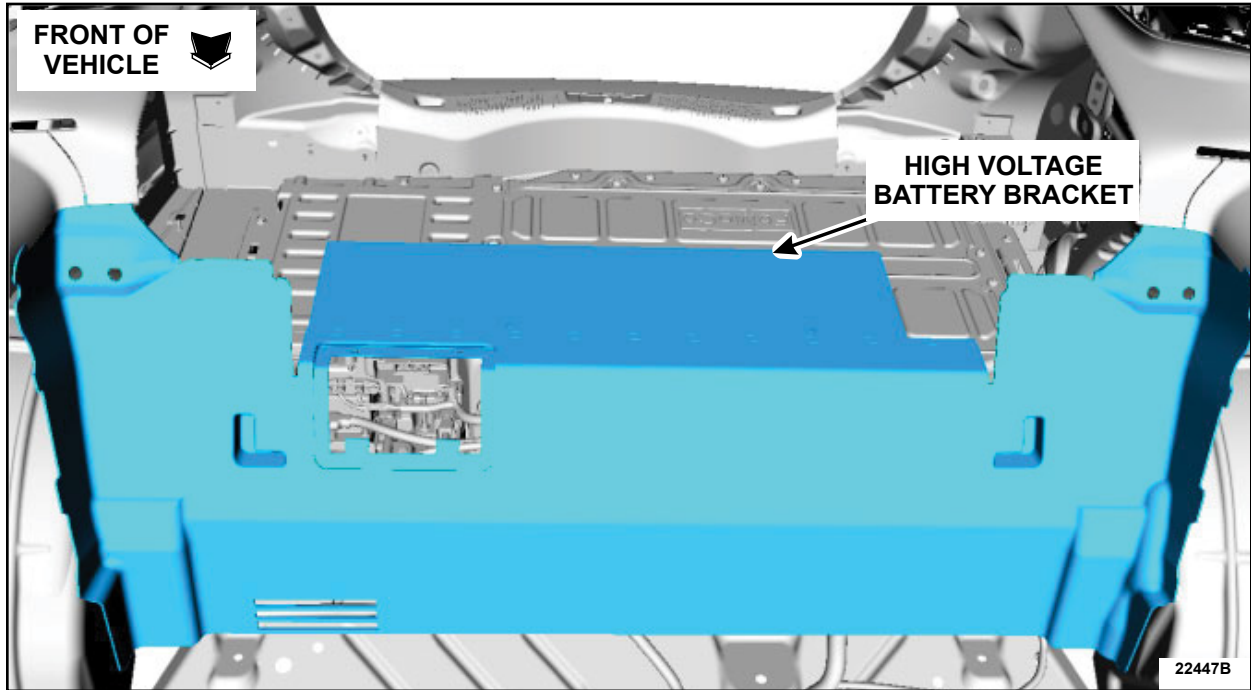

FIGURE 2
5. Remove the high voltage battery bracket. See Figure 2.